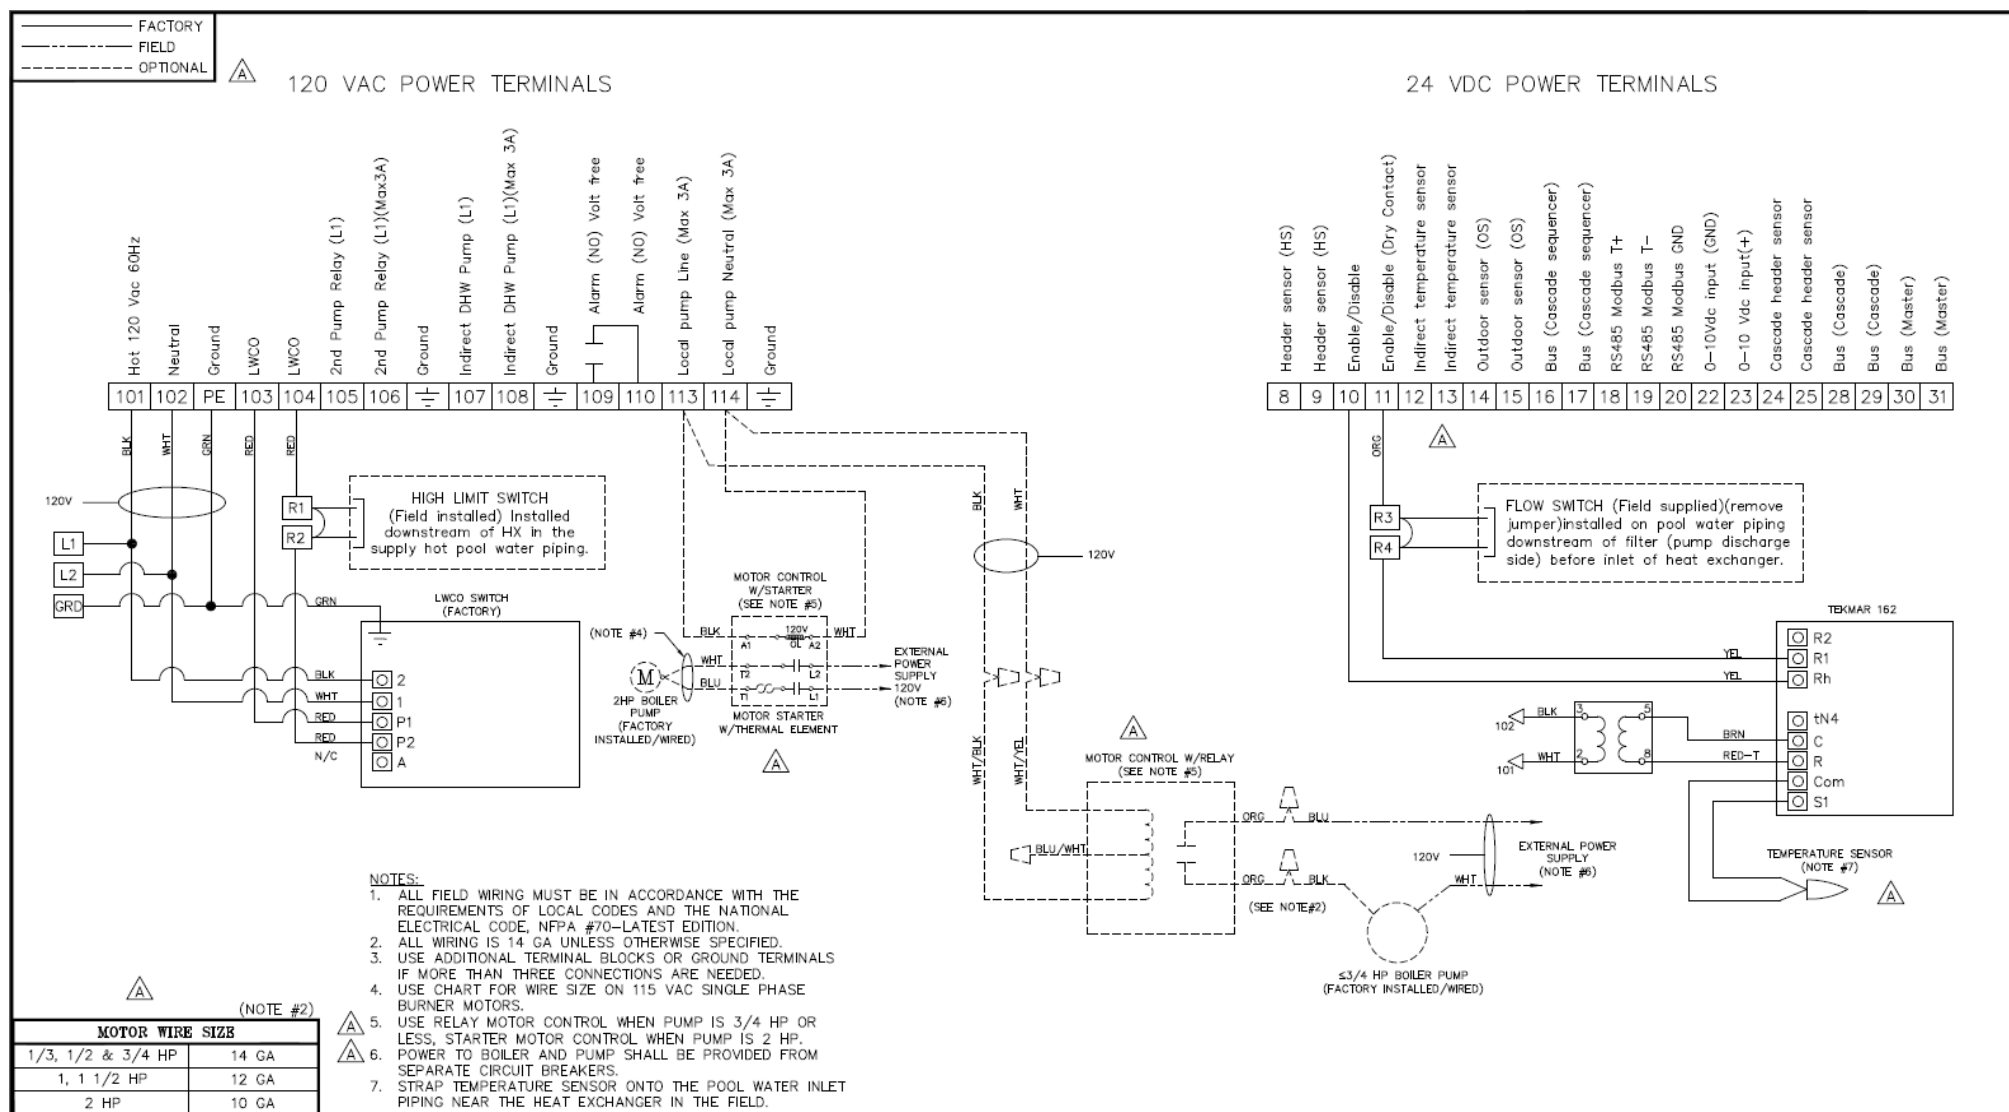

Figure 7-2: Pool Heater Boiler Electrical Connections
3. Open the boiler electrical junction box cover and connect the leads of the cable to terminals R3 and R4, as shown in Figure 7-2.
3. Open the boiler electrical junction box cover and connect the leads of the cable to terminals R1 and R2 (see Figure 7.2).